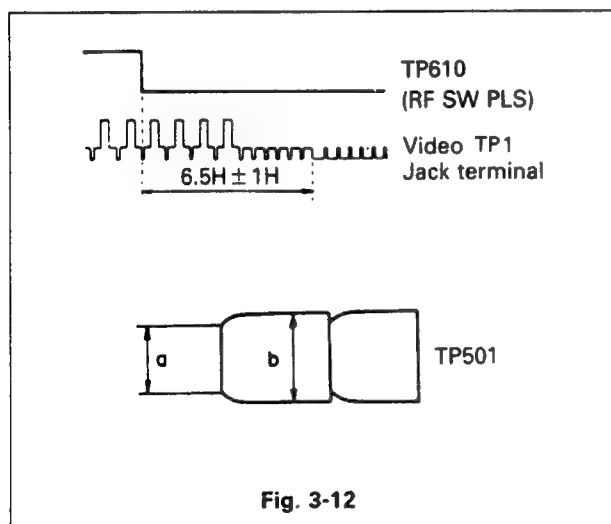

Fig. 3-12
- (1) Connect the oscilloscope's CH1 to the test pin TP610 on the S/S circuit board and the CH2 to the test pin TP1 on the jack terminal board.
- (2) Make sure REC timing is set at $6.5H \pm 1H$. (Figure 3-12)
- (3) Record a monochrome signal or a stair step signal on a blank tape.
- (4) Connect the oscilloscope's CH1 to the test pin TP501 on the preamplifier and the CH2 to TP610.
Play back the tape just recorded and make sure evenness (a/b) of the waveform is higher than 0.7. (Figure 3-12)